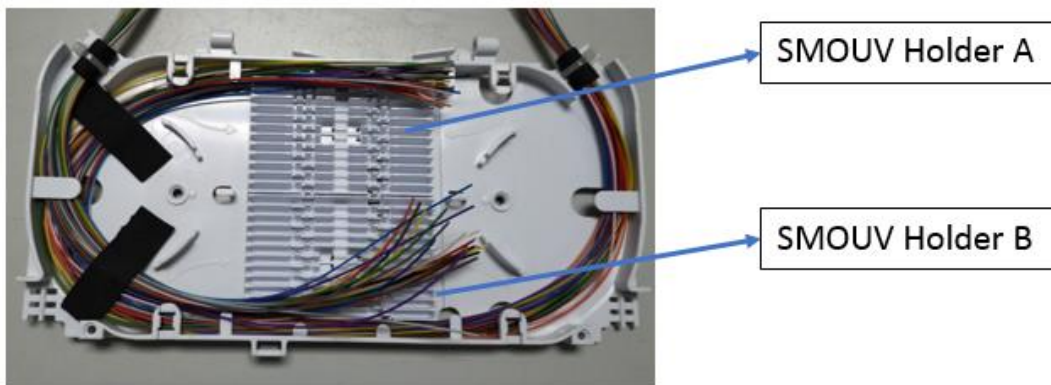

Figure 6
6. Using the provided nylon tie wrap, loop it through the slot in the tray and around foam. Tighten cable tie for fixture. Make sure the head of the cable tie is on the bottom side of the foam, as Figure 6.
7. Route fibers in the tray and use foam to hold it temporary if needed as Figure 6. While splicing, first batch 12F as the first layer, second batch 12F as the second layer put in SMOUV holder B.